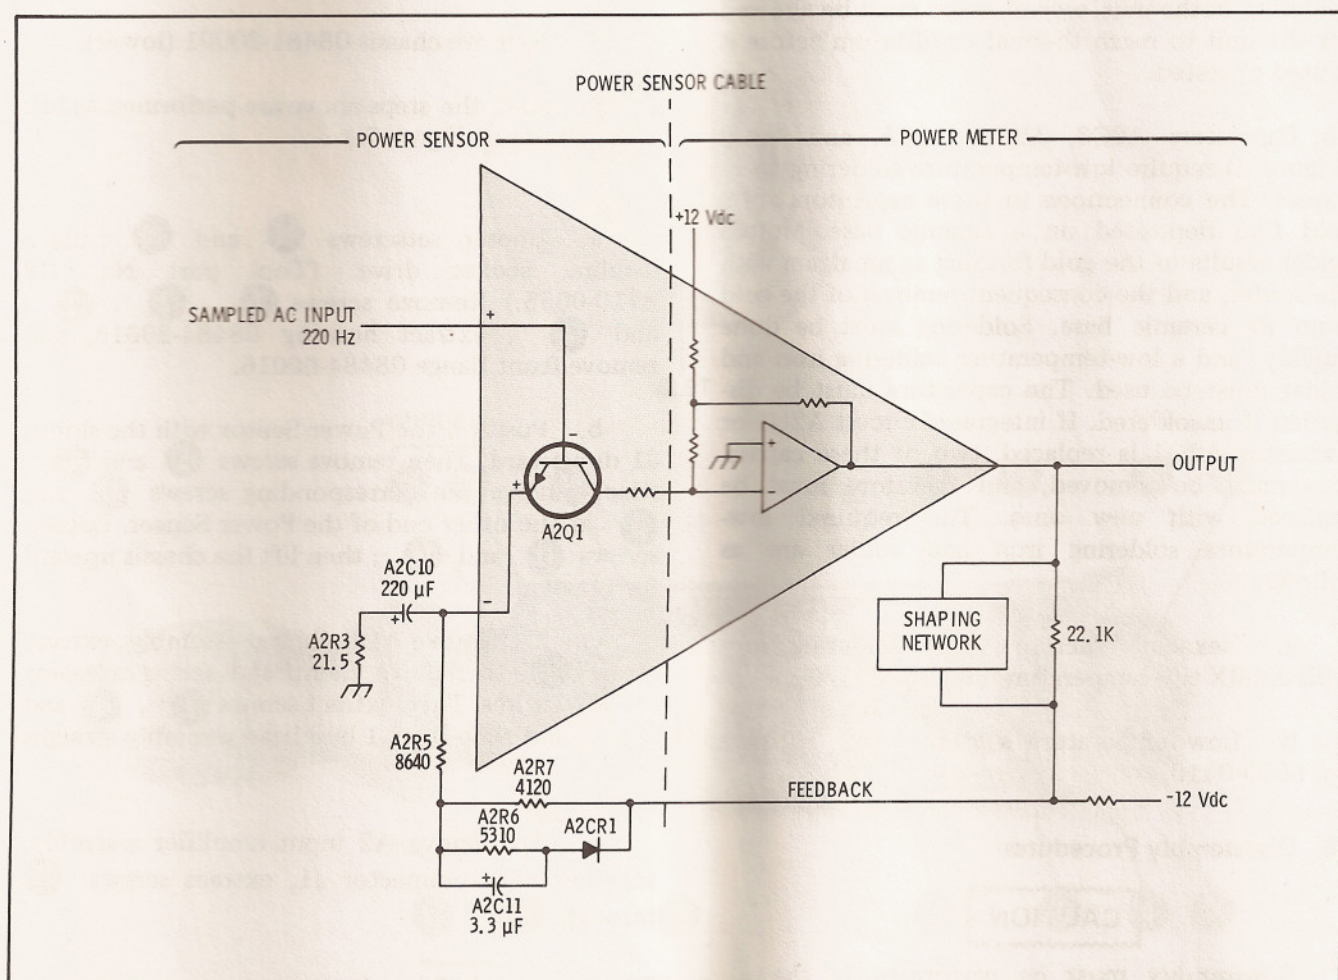

Figure 6. Operational Amplifier
60. The output of A2U1 is amplified about 1700 times by an operational amplifier made up of A2U2 and the first amplifier stage in the power meter. Figure 6 is a simplified diagram of the complete operational amplifier.
61. Resistors A2R5, A2R6, and A2R7 together with capacitor A2C11 and diode A2CR1, make up a shaping network. This network brings about a linear change in the amplitude of the square wave output as RF input power changes. A shaping network in the power meter (Figure 6) produces the same effect when a power sensor of the thermocouple type is used. (HP Model 8481A, 8482A,